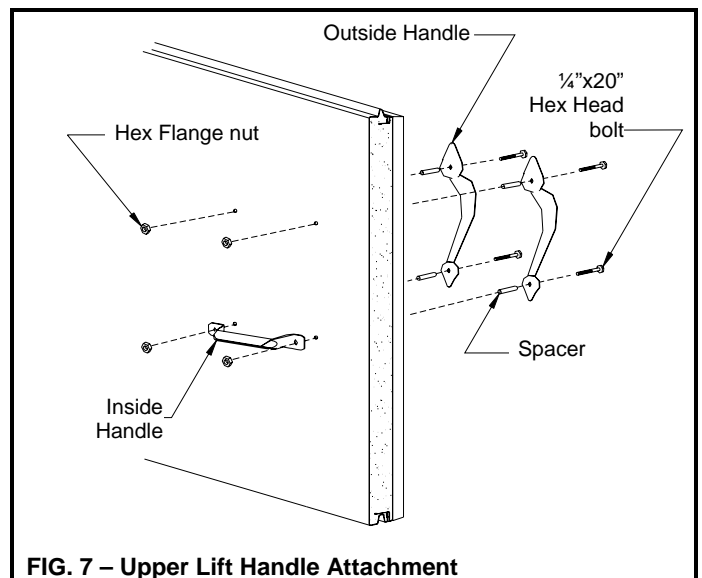

FIG. 7 – Upper Lift Handle Attachment
**Step 10:** Attach each vertical ornamental handle (outside) and one steel horizontal roll grip handle (inside) to the door using two 1/4" black painted hex head bolts, and two 1/4" hex nuts. Use a set of hex head bolts and hex nuts to fasten the vertical handles to the door through the remaining holes. The inside handle may be matched with either set of holes so long as it is no closer than 4" to the top or bottom of the section (See Fig. 7).